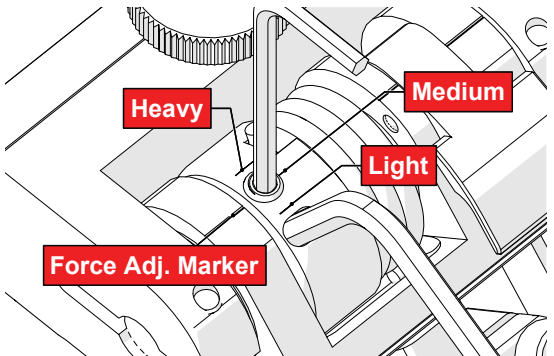

Fig. 84 - Choose desired tension
6. Gently apply pressure on the long leg of the 3 mm hex wrench until the force adjustment marker lines up with the desired spring tension. While keeping the markers in line, tighten the force adjustment screw (Fig. 84).